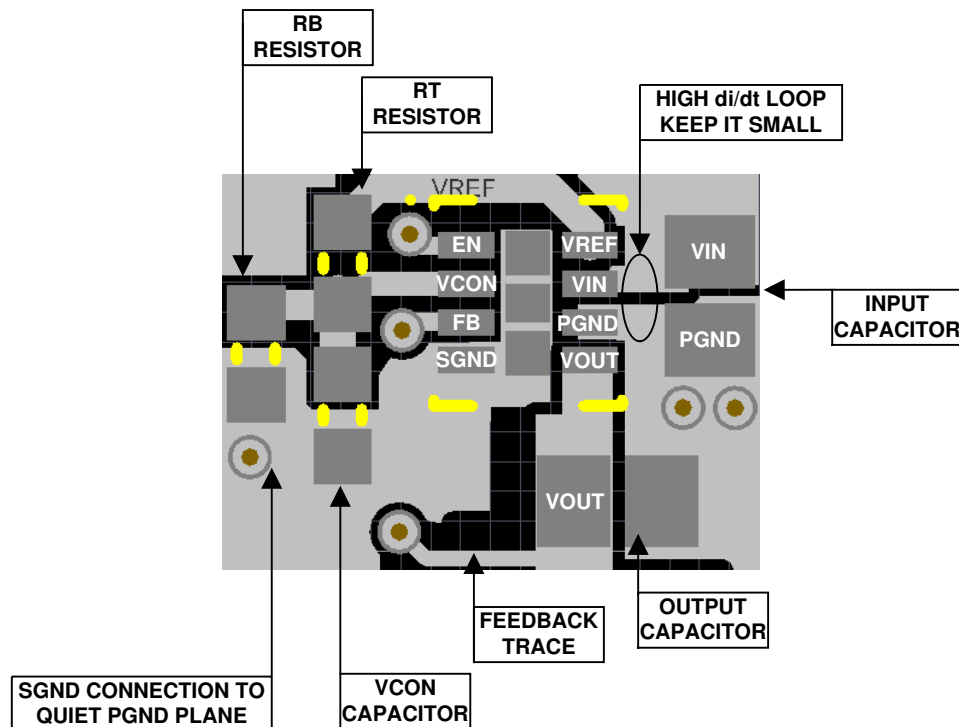

図 8-26. Example Top Layer Board Layout
The LMZ10501 integrates the inductor and simplifies the DC/DC converter board layout. Refer to the example layout in Figure 8-26. There are a few basic requirements to achieve a good LMZ10501 layout.
2. Place the VCON filter capacitor C_{VC} and the R_{B} R_{T} resistive divider as close as possible to the VCON and SGND pins. The C_{VC} capacitor (not R_{B}) must be the component closer to the VCON pin, as shown in Figure 8-26. This allows for better bypass of the control voltage set at VCON.